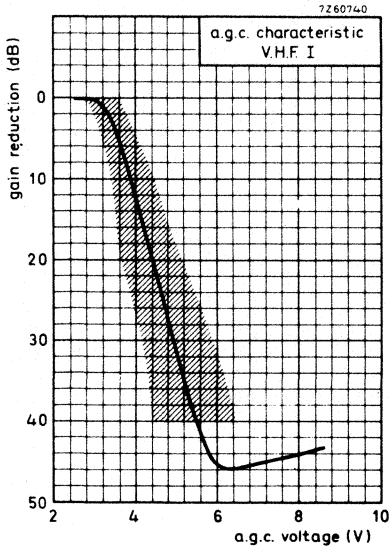

Fig. 5.
A. G. C. voltage (Figs 5, 6 and 7)